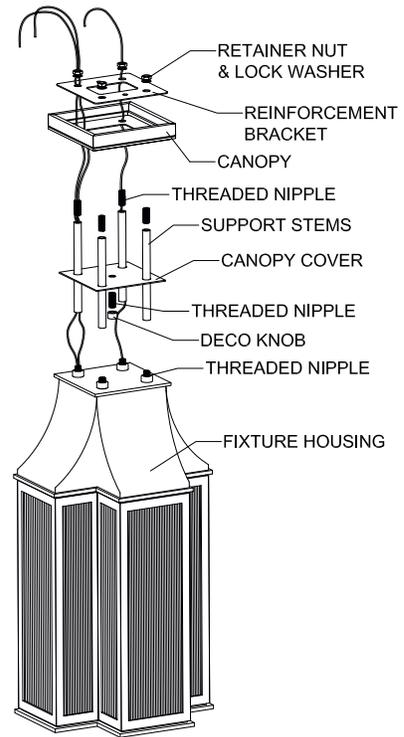

Figure 3
Step 3 Fixture housing and stem assembly: depending on the overall height of the fixture, it may be necessary to assemble the upper components of the assembly as they may have been disassembled for shipping purposes. Begin the assembly process by routing the wires up and through the stems. Use Loctite 2440 thread locker or equivalent on the threads and thread the support stems onto the top of the fixture housing, fasten securely. (See Figure 3)
Step 4 Locate and slide the canopy cover down the stems and carefully rest on top of the fixture hood. Next attach the canopy to the upper stems. Attach the additional reinforcement brackets and secure into place with the retainer nuts and lock washers. (See Figure 3)